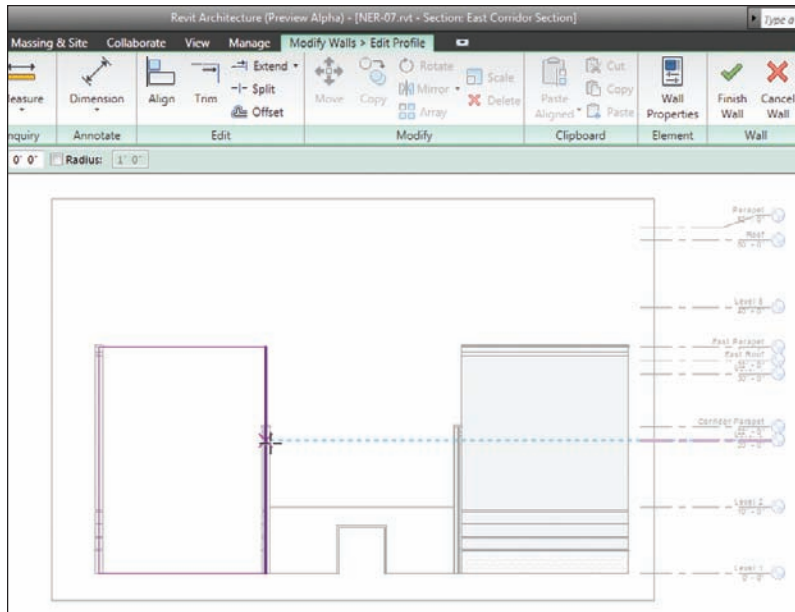

FIGURE 3.43 Revit will align your cursor to levels, allowing you to accurately sketch a new profile.
6. Move your pointer up or down until you are aligned with Level 3, as shown in Figure 3.43.